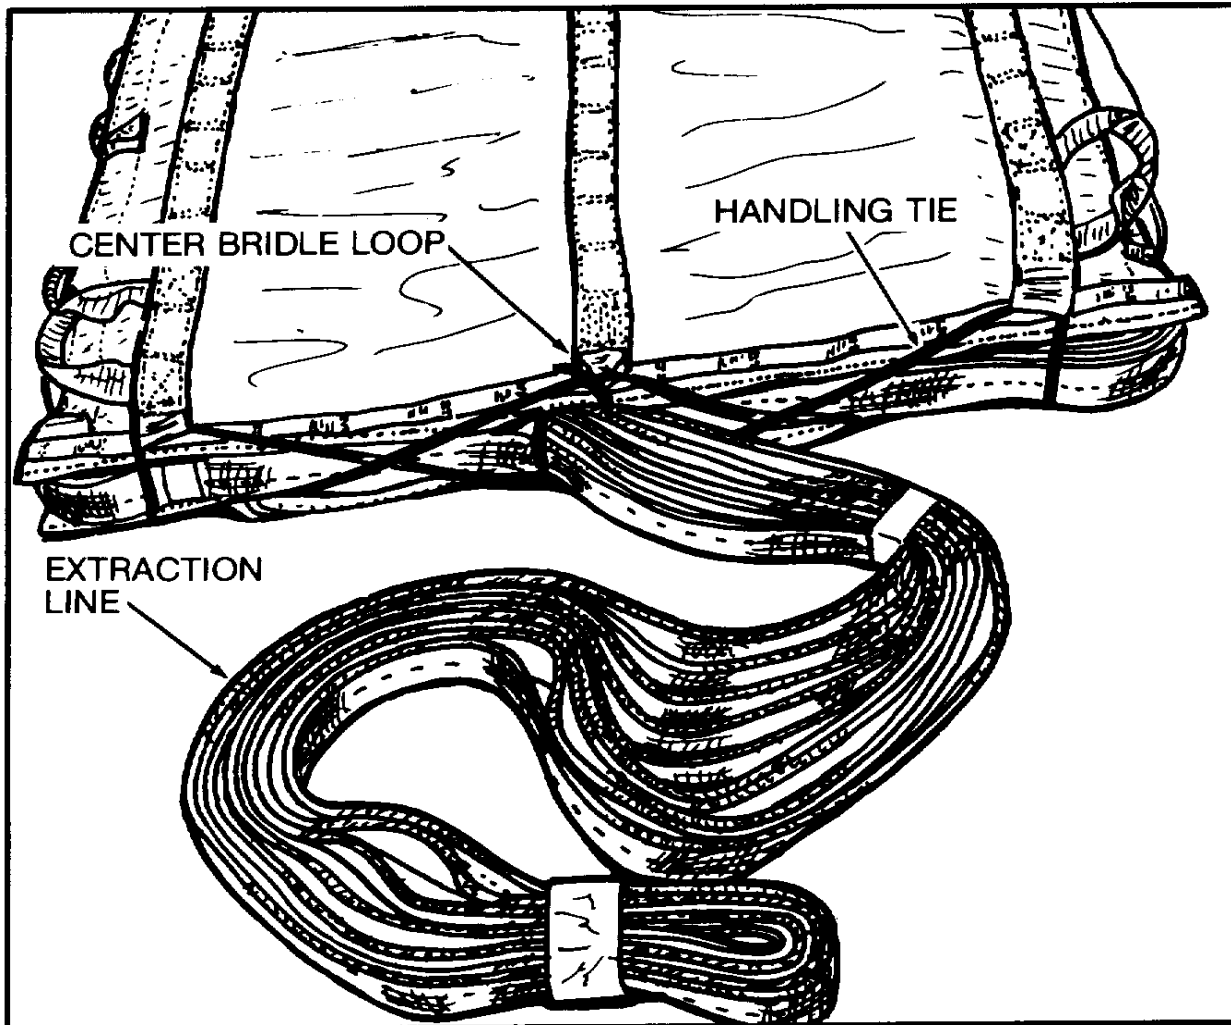

Figure 7. Handling Tie Installed.
- f. Beginning at upper top center bridle attaching loops, pass one end of 95-inch cotton webbing bag closing tie (temporary tie) through top center, bottom right, top right, bottom center, top left, bottom left, and back through top center loops. Remove slack from tie and secure ends with surgeon's knot and locking knot (figure 7).